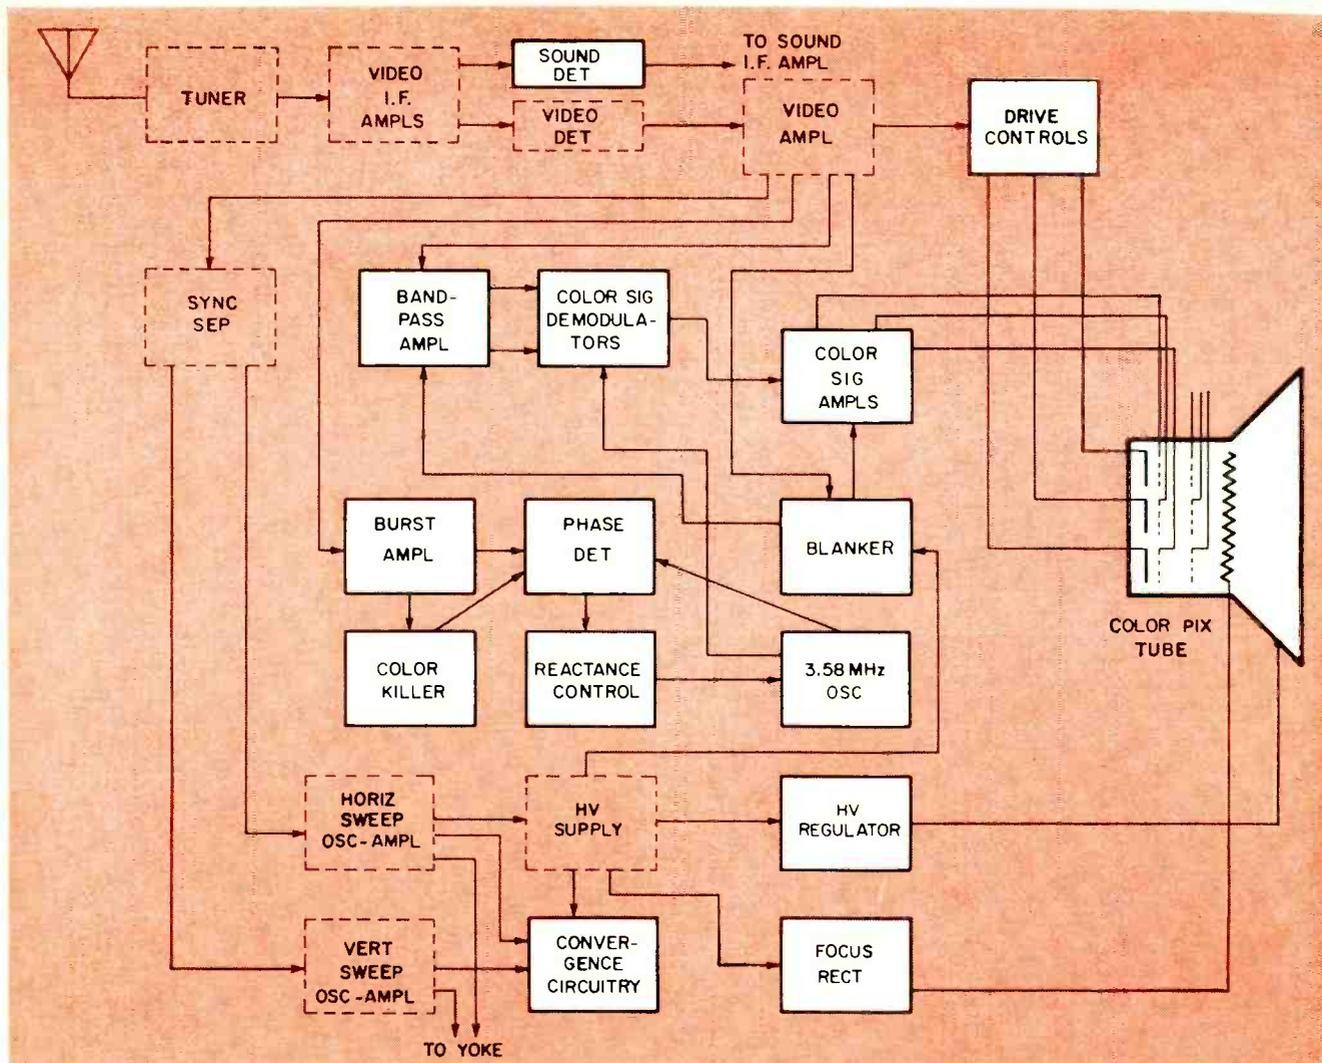

Fig. 3—Color elements added to circuits normally found in black-and-white receivers.
The color circuits that are added to those normally required for black and white are shown in Fig. 3. Also, the sound i.f. signal is much weaker
A burst amplifier (see Fig. 3) brings the 3.58-MHz sync signal up to the level required. A phase detector samples the 3.58 MHz oscillator frequency and compares it with the incoming burst. If there is any difference, the phase detector causes a reactance control circuit to correct the subcarrier oscillator frequency slightly.
Fig. 3—A modulator and envelope controller can be built with a low-current bulb and cadmium sulfide cell. Frequency response is limited by the bulb response time.
**Build a CdS-Cell Modulator.** A light-controlled volume control is easily assembled with cadmium sulfide photoelectric cells (Fig. 3). By using a high-fidelity amplifier to drive a light bulb, a type of amplitude modulation can be produced. The frequency response of the modulation channel is limited by the response time of the light bulb, so use a small, low-current bulb (such as a flashlight bulb) that responds faster than larger bulbs.